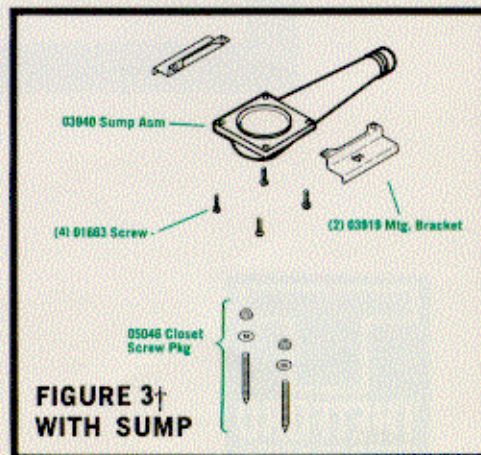

FIGURE 3†
1. Mount sump and mounting brackets to bottom of units with four (4) screws (Figure 3).
- C. Remove four (4) 01663 screws and remove sump. (Figure 3).